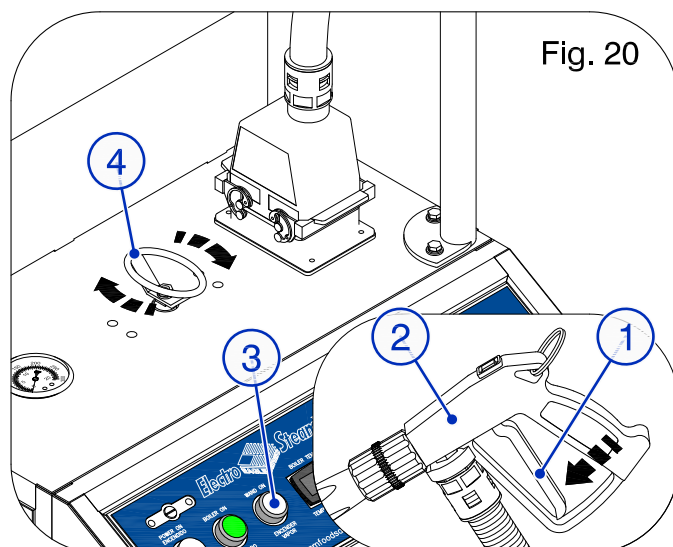
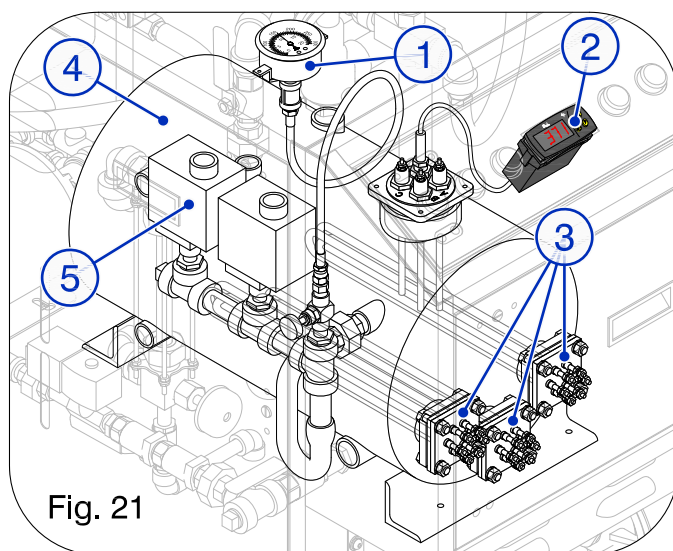

Fig. 20
Fig. 21
☞ After relieving all the air pressure in the Boiler Chamber (4-Fig. 21), release the Trigger (1-Fig. 20) of the Steam Gun (2-Fig. 20).
☞ Release the **WHITE** (Wand On) Switch (3-Fig. 20).
- The **WHITE** (Wand On) Switch (3-Fig. 20) light will turn off, indicating that the Steam Gun (2-Fig. 20) is no longer active.
☞ Rotate the Steam Regulator Valve (4-Fig. 20) **CLOCKWISE** to the **CLOSED** position.
WARNING: To avoid accidental injury, always deactivate the Steam Gun (2-Fig. 20), and **CLOSE** the Steam Regulator Valve (4-Fig. 20) when the Steam Gun (2-Fig. 20) is not in use.
☞ With the Electric Heaters (3-Fig. 21) energized, steam pressure will begin to accumulate in the Boiler Chamber (4-Fig. 21) and the temperature will rise.
NOTE: This will be visible on the Pressure Gauge (1-Fig. 21,22) and the Boiler Temperature Display/Control (2-Fig. 21,22).
- As soon as the pressure reaches **160 PSI (11 BAR)**, the (Control) Pressure Switch (5-Fig. 21) will turn off the Electric Heater (3-Fig. 21).
WARNING: Whenever changing accessories, make sure the Steam Regulator Valve is **CLOSED** and the **WHITE** (Wand On) Switch is **NOT** pressed and lit. (See Fig. 20)